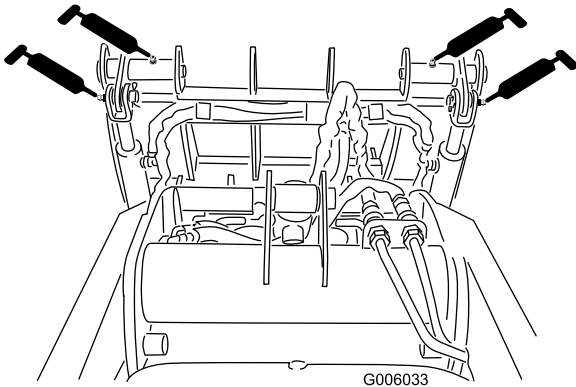

Figure 6
- Connect a grease gun to each fitting (Figure 6).